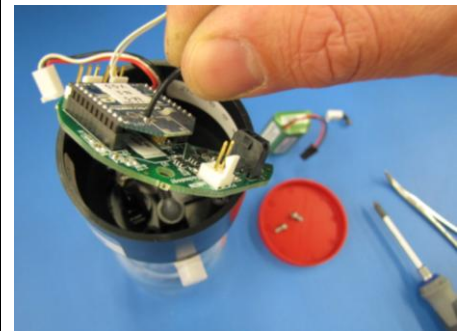

Figure 7
7. As depicted in Figure 7, remove the old circuit board and chip and install the replacement components.